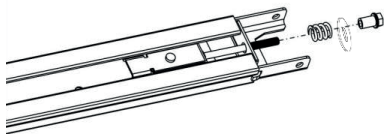

Fig. 7
3. Loosen the nut and spring as in Fig. 7.